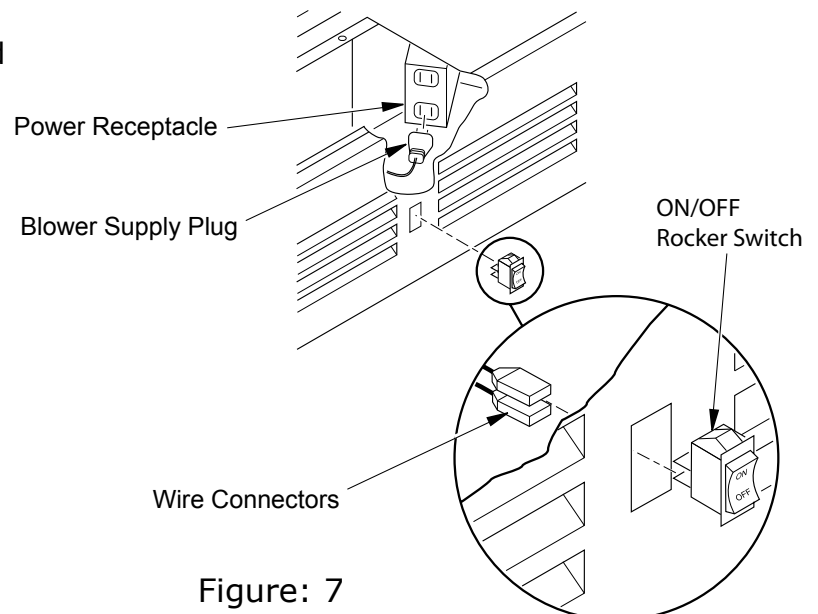

Figure: 7
Step 3: Install ON/OFF Rocker switch in rectangular knockout hole. This will require you to pull wires off ON/OFF switch and then put back on after switch is inserted in hole. (Figure: 7)